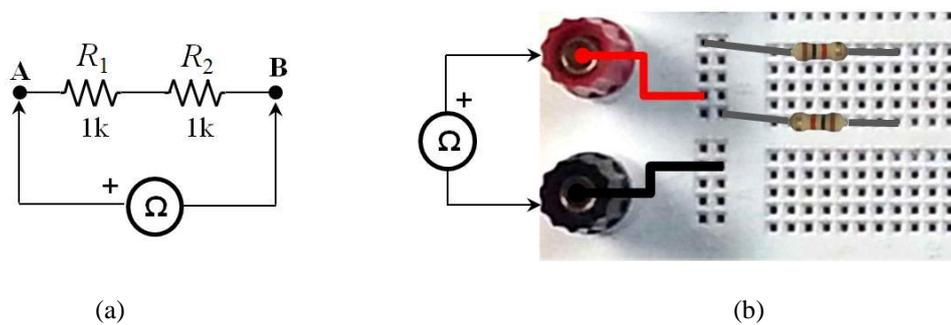

Figure 10. Mounting example of the series circuit. a) Electric diagram; b) Breadboard layout
- In the first schematic; **1)** Follow the breadboard distribution in Fig. 10; **2)** Determine the theoretical value between A and B; and finally; **3)** compare with experimental results.